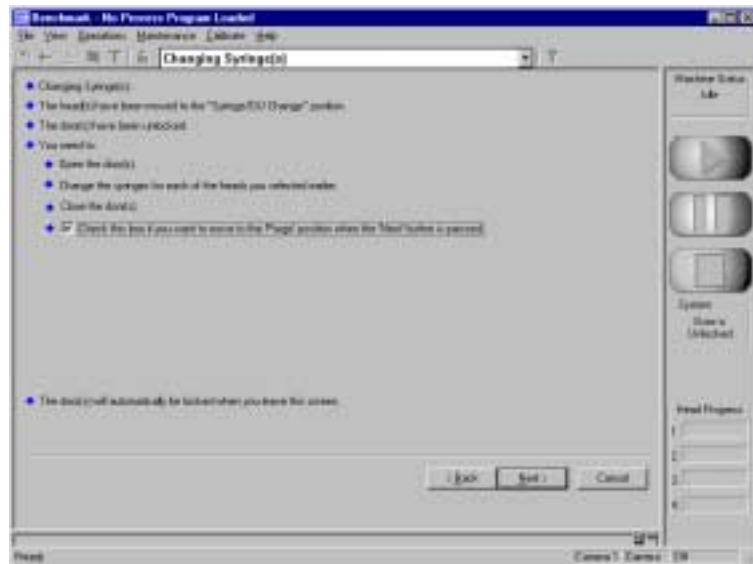

Figure 10
1. Select **View > Maintenance > Change Syringe** from the main screen or left click on the **Change Syringe**  icon button. The Changing Syringe(s) screen appears. See Figure 10.